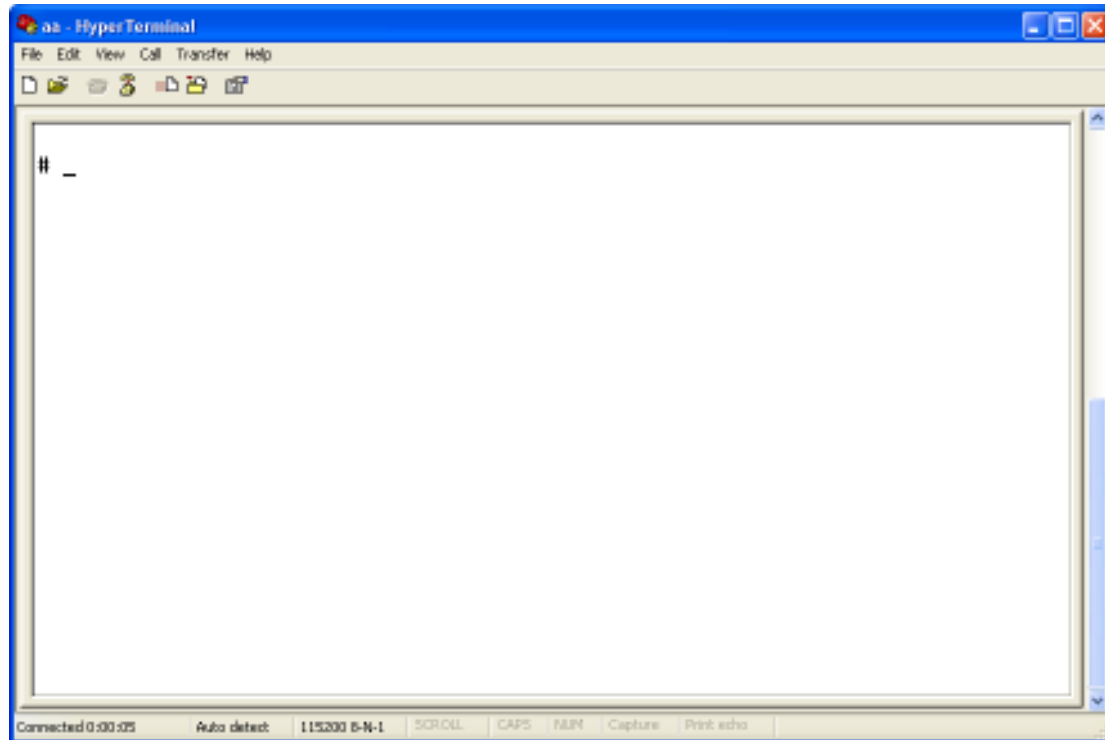

Fig. 3.7 Hyper Terminal command prompt
**Step 2:** Press “Enter” in Hyper Terminal, the prompt “#” appear, as in Fig. 3.7. Under this prompt the following operation commands to accomplish the setup of the parameters.